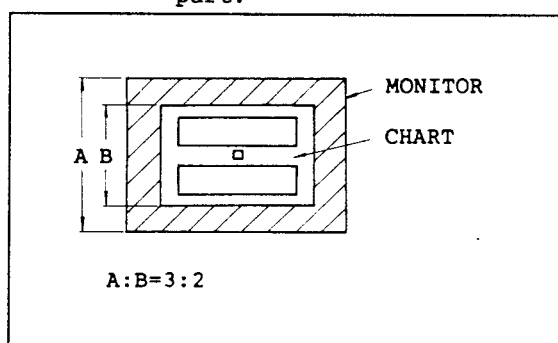

Fig. II-42
CHART	Grayscale(see Fig.II-42)(5600° K)
- *Note: 1. Set the angle of view as shown in the Fig. II-42 by turning a zoom ring to the wide angle side.